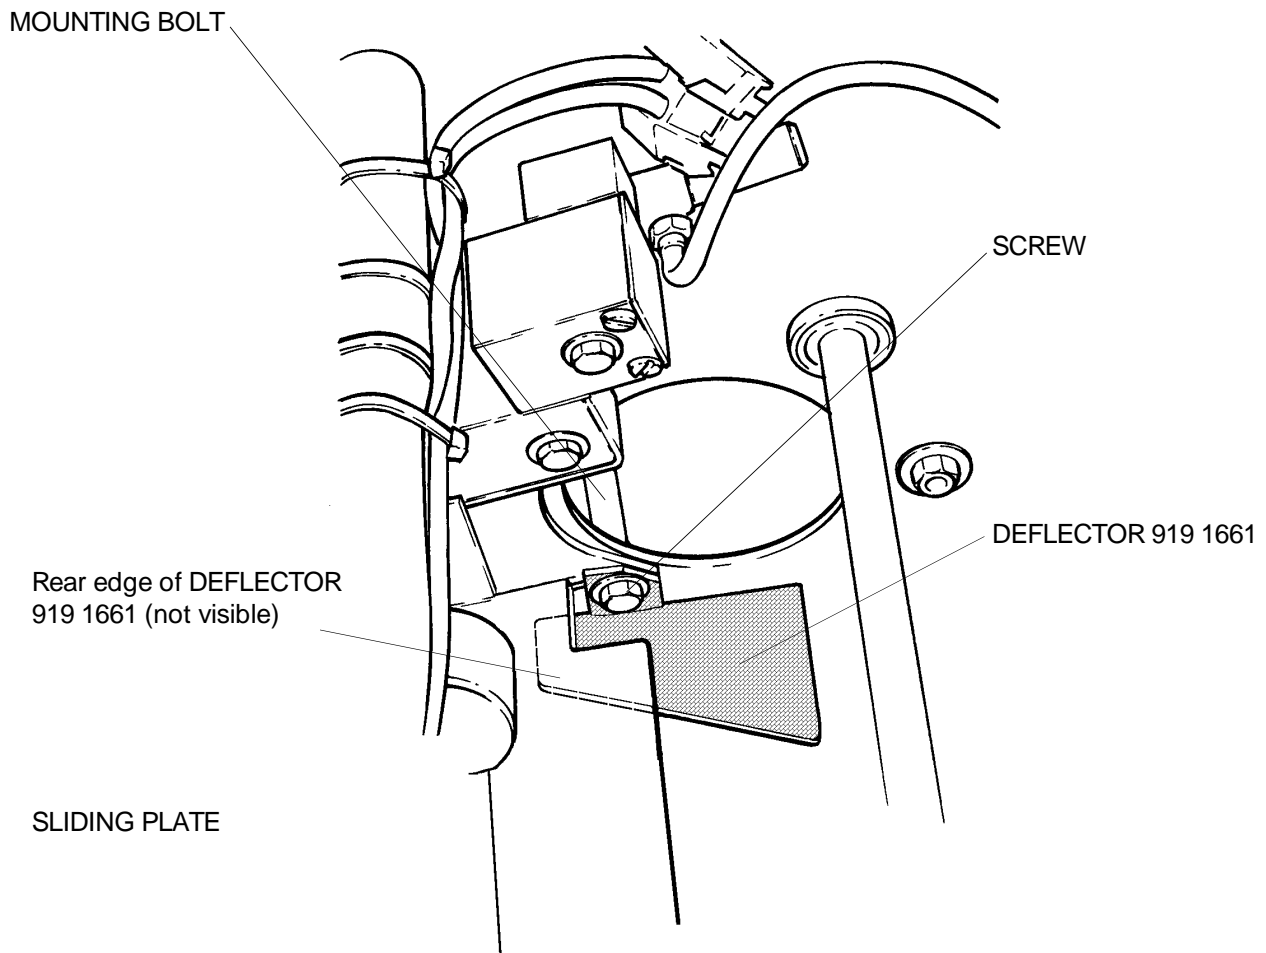

figure 2
**7** Remove the SCREW. See figure 2.
- 9** Place the DEFLECTOR 9191661 under the SLIDING PLATE. See figure 2.
- 10** Fasten the SCREW on the MOUNTING BOLT. Check that the rear edge of the DEFLECTOR touches against the SLIDING PLATE. See figure 2.